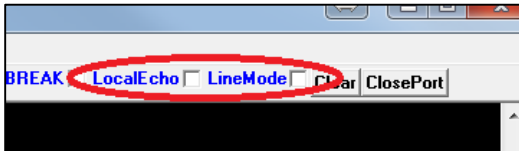

Figure 29: LocalEcho and LineMode checkboxes
1. On the UwTerminal, unselect the LocalEcho and LineMode checkboxes (Figure 29).